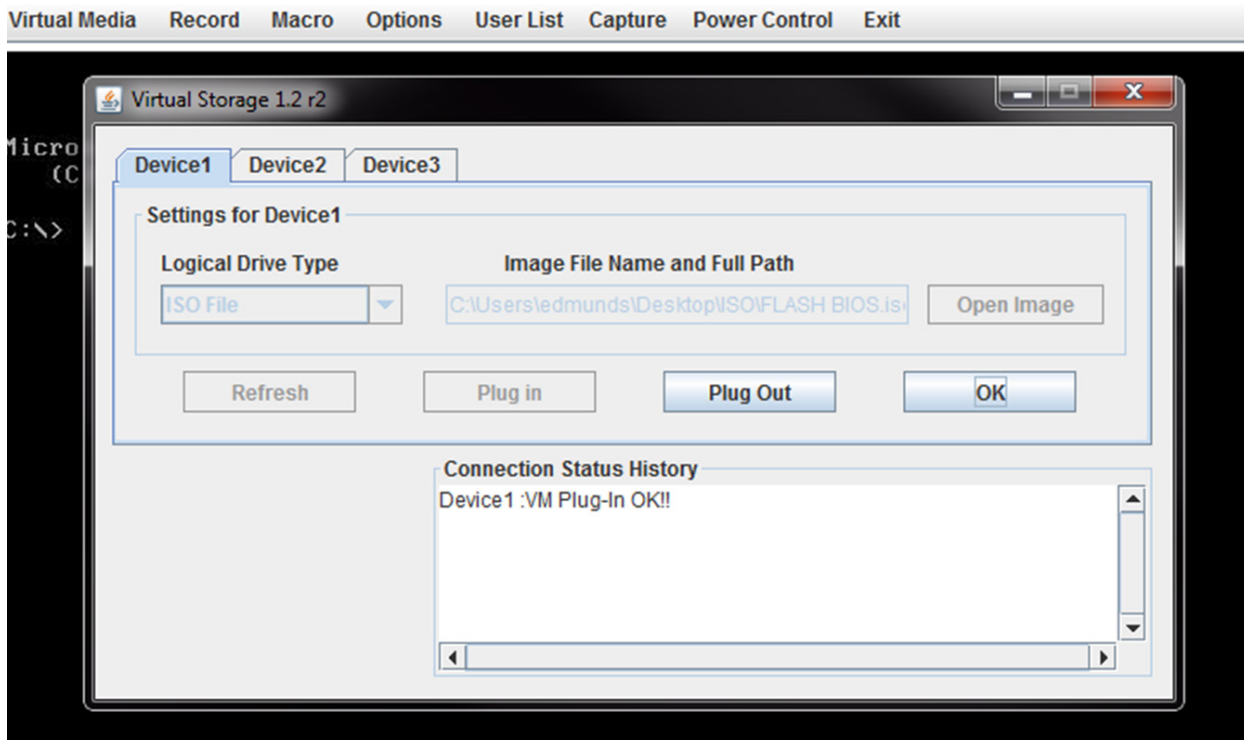

Figure A-7. Pressing the Plug in and OK Buttons for an ISO File
- After you have selected the ISO file, press the Plug In button, then the OK button to exit the Virtual Storage window (Figure A-7). Skip ahead to step 8.